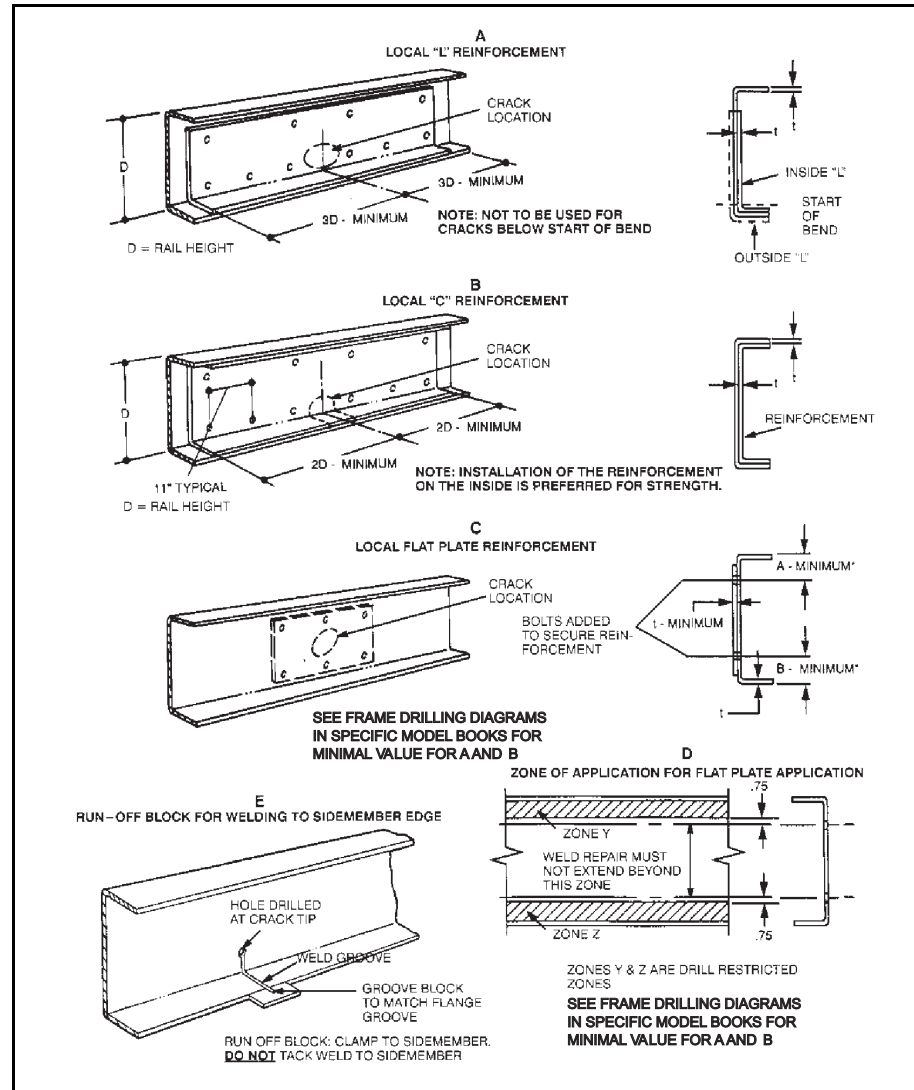

Figure 2.4 Reinforcement Application
THE TYPE, LENGTH, MATERIAL AND ATTACHMENT TECHNIQUES FOR REINFORCEMENTS VARY WITH THE TYPE AND LOCATION OF THE CRACK AND WITH THE LOADING CONDITIONS ASSOCIATED WITH THE CRACK. It is not practical to give specific recommendations for all cases of frame cracking, therefore the various types of reinforcements are identified with general descriptions of their applications and installation procedures. To aid in making the distinctions between the more critical flange area and the less critical web area, critical zones are defined as shown (Figure 2.4 D).
Steps 1 and 2 above also apply to the full length “L” reinforcements available from International. All of these are the inverted “L” type and are designed for installation on the outside of the sidemember section (except 9000 Series) (Figure 2.4 A).
This type of reinforcement must be custom-fabricated either by cutting lengths from “full length” reinforcements or by forming from flat stock (Figure 2.4 B).
2. Figure 2.4 B gives recommended dimensional data and attachment specifications for a typical installation. Holes drilled for the attachment must be within the frame drilling guidelines in the specific model body builder book.
This type of reinforcement is recommended for cases in which the weld repair is confined to the web of the section but extends beyond the application zone of the flat plate reinforcements shown in Figure 2.4 D.
1. Figure 2.4 A shows a typical installation for an “L” reinforcement on the inside of a sidemember section along with minimum recommended dimensions.
This reinforcement is intended for the less critical, web portion of the sidemember section where typical cracking is due to local stresses which tend to “diaphragm” or “dish” the web without creating appreciable stresses for overall bending of the section. Typical crack patterns radiate out from the edge of a mounting bracket or crossmember or from a hole in the web. Cracks which radiate from a web hole occupied by a fastener are frequently an indication of a defective joint, whether by the loosening of the fastener or poor joint design (Figure 2.4 C).
The flat plate reinforcements are recommended for weld repairs in which the weld does not extend beyond the zone defined in Figure 2.4 D.
1. A typical installation is shown in Figure 2.4 C. The length and height of the plate will vary with the size of the weld repair area. In general it should be such that it will accommodate an array of reinforcement attachment bolts at a typical 3 to 5 inch (76 to 127 mm) spacing all around the weld repair area.